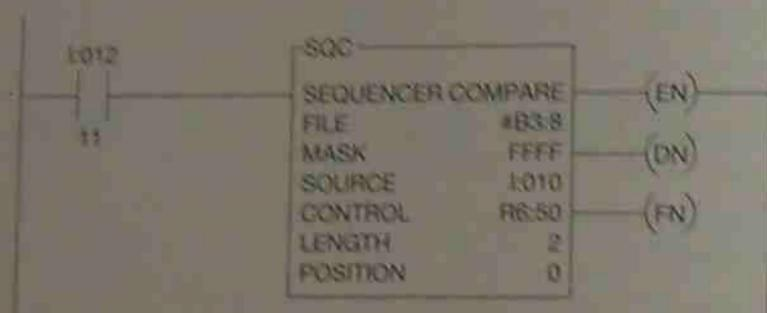

Figure 17-10 Sequencer Compare Instruction (SQC)
Another Allen-Bradley sequencer instruction is the Sequencer Compare Instruction (SQC). This instruction compares all of the unmasked bit of the source word to the current step of the sequencer file. If all of the bits match, bit 08 of the control word is set to 1. Bit 8 is the Found Bit (FD). This instruction can be used to compare the status of a machine/equipment input devices with what is normal operation. This is a great way to do machine diagnostics. Figure 17-10 shows a SQC instruction.